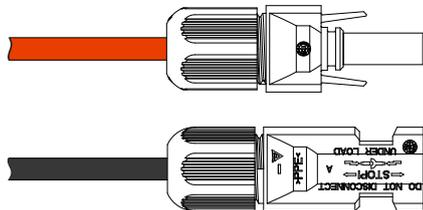

Figure3-35 Tighten the sealing nuts
Step 5 Tighten the sealing nuts of positive connector and negative connector to the corresponding insulation crusts respectively, as shown in Figure3-35.